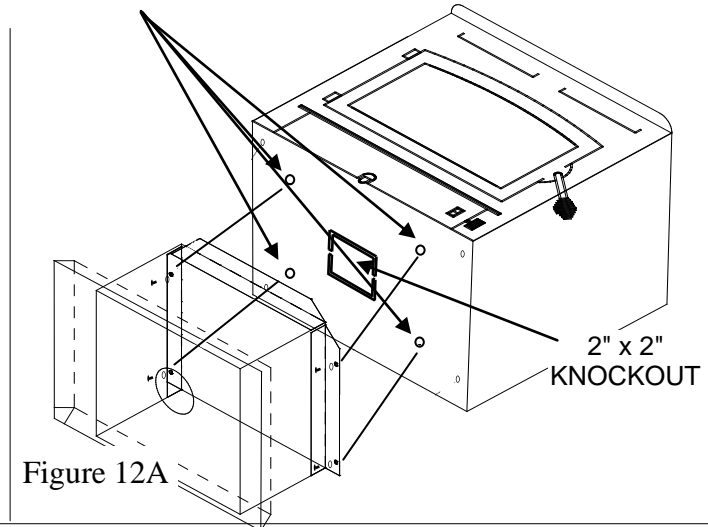

Figure 12A
6. **(Pedestal Kit):** If pedestal kit is being used and out side air is required, see *Out Side Air Installation*. Open freestanding kit and obtain stand. Place stand against bottom of heater (angle side to heater). Center stand front to back and also center stand left and right. Mark screw locations on bottom of stove through outer holes of stand mounting angles. Set stand aside and drill four 7/32" holes in heater bottom. Before attaching heater to the stand, take a large flat screwdriver or pliers and remove 2" x 2" knockout on bottom of unit. (See Figure 12A). Then mount stand to bottom of heater with screws provided. (See Figure 12A).
7. Obtain four (4) 3/16" self-tapping screws and secure stand to heater.